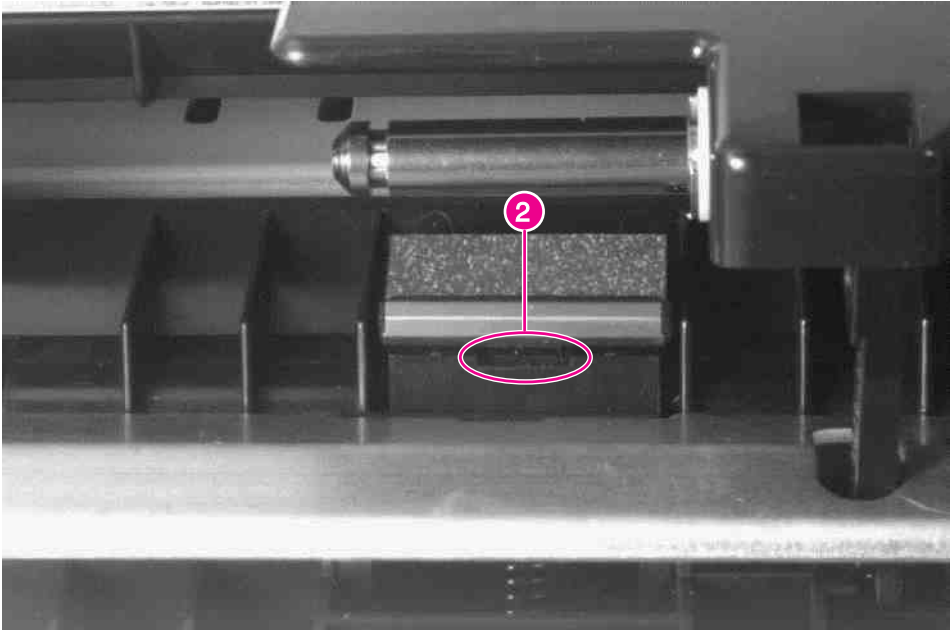

Figure 6-55 Tray 1 Separation Pad
- 2 Insert a flat-bladed screwdriver into the slot (figure 6-55, callout 2), and carefully pry the separation pad upwards out of its retaining notches.